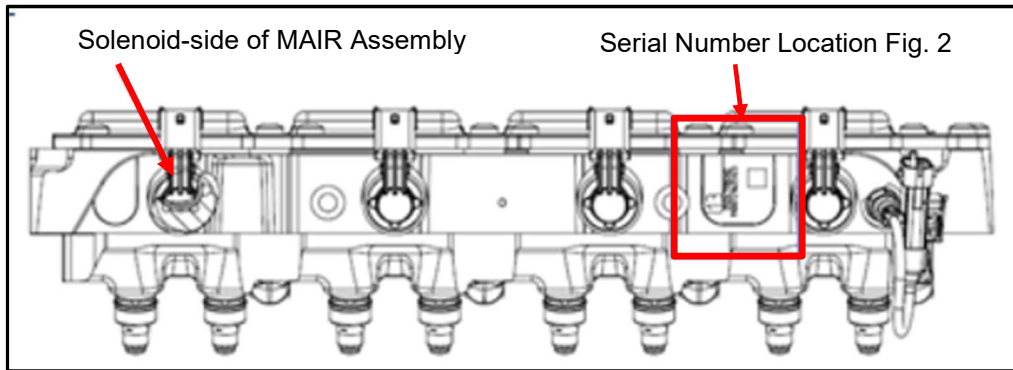

Fig. 1
2. Once the MAIR is exposed, locate the serial number etched into the side of the MAIR. See Figures 1 and 2 below for location.